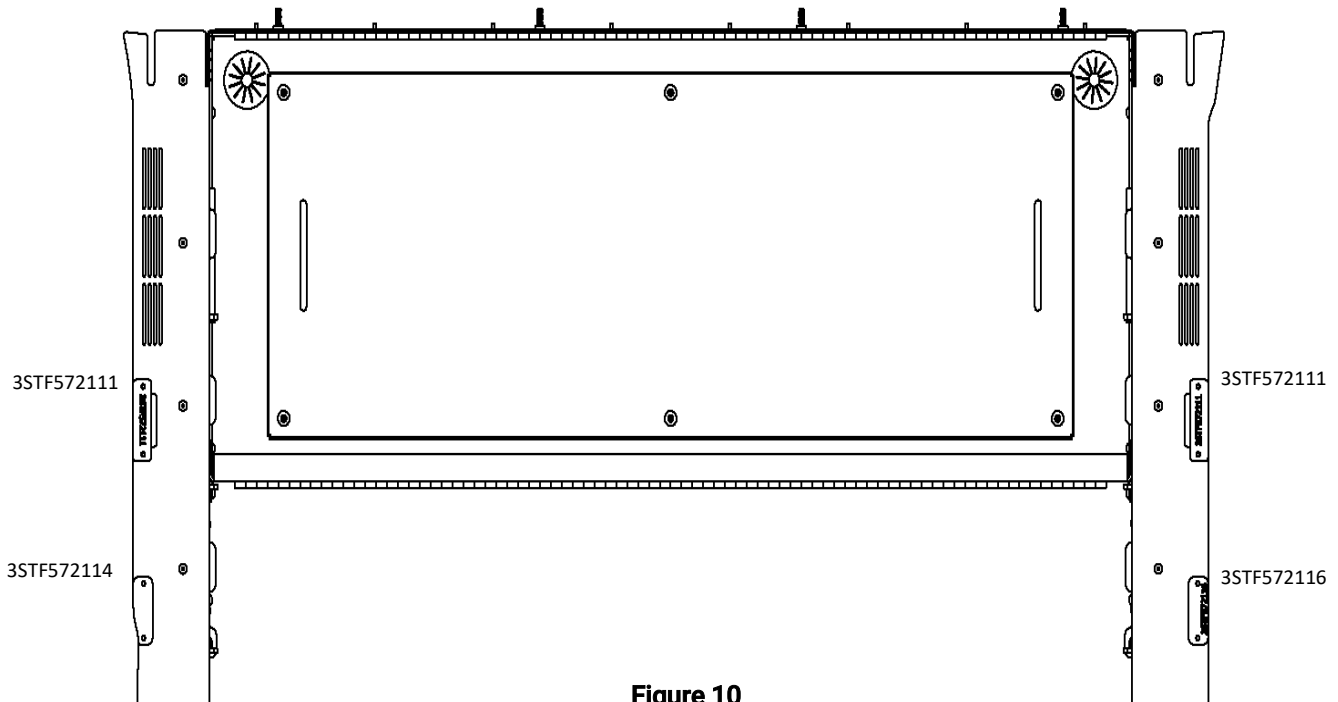

Figure 10
3. Locate the Rear Driver Side Cover Plate [3STF572114], Rear Passenger Side Cover Plate [3STF572116], Front Cover Plates [3STF572111], and (8) [3X299] #8 X 3/4 Self Drilling Philips Head Screws.
4. Install Cover Plates as shown in Figure 10. If vehicle has Cargo Security Cover, Rear Cover Plates will not be used.